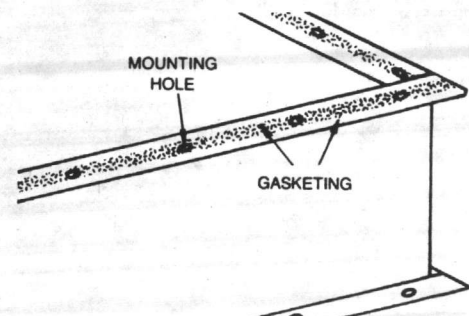

FIGURE 14 - Installation of Gasketing on the Damper Section
5. Apply gasketing to the damper section or double-duct frame. Refer to Figure 14. Gasketing is not required at the center of the damper section where the dividing plate will be fastened.
5. Apply gasketing to the damper assembly. See Figure 14. Gasketing is not required at the center of the damper section where the divider plate will be fastened.